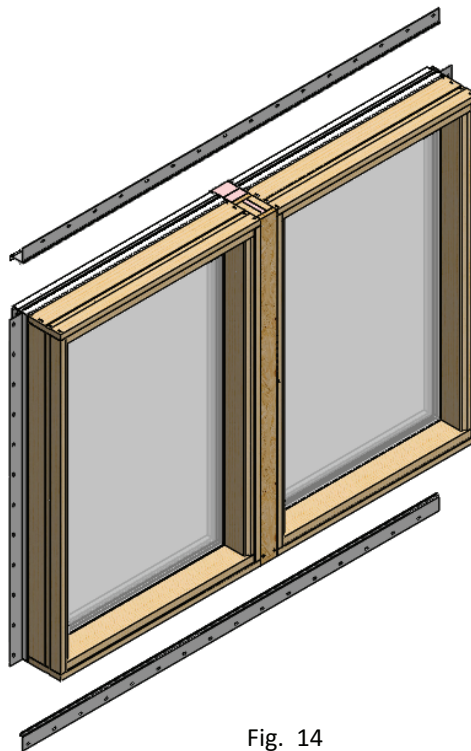

Fig. 14
- Install new full length head and sill nail fins. (Fig. 14)